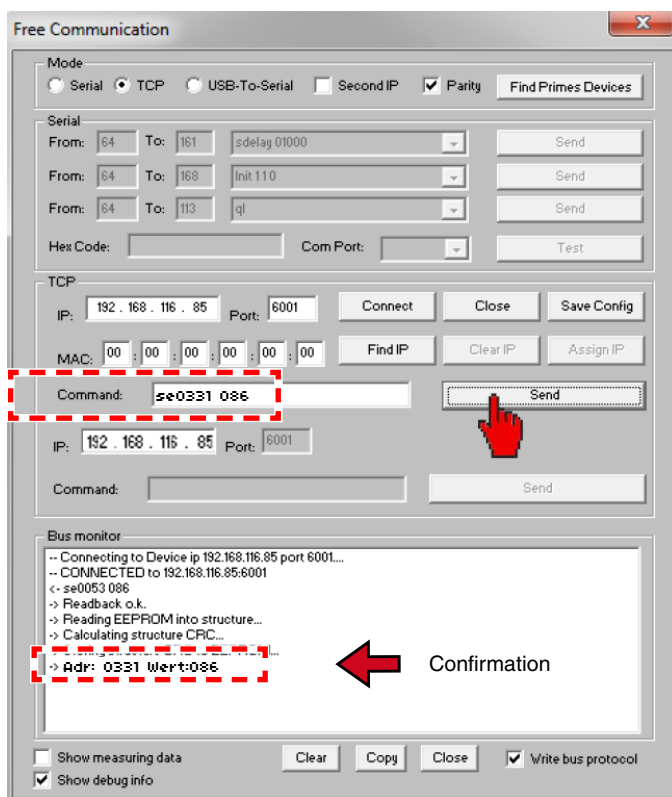

Fig. 9.7: Changing the IP address in the menu **Free Communication**
8. Click to **Send** and wait for the confirmation in the bus monitor (in Fig. 9.7 „-> Adr:0331 Wert: 086“)